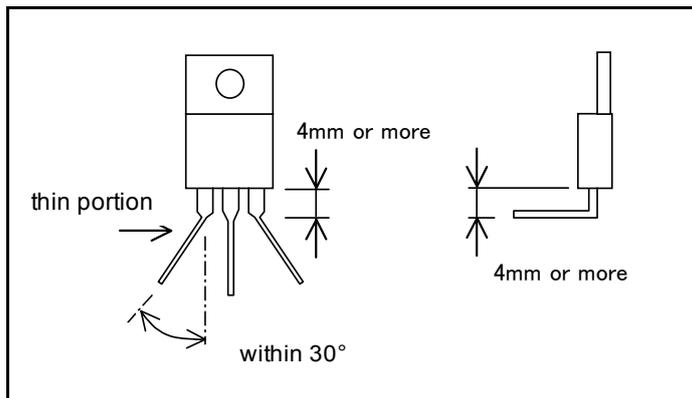

Fig.6-4 Cautions in molding a lead
- Provide an exclusive jig that does not allow stress shown in Fig.6-4 to be applied.